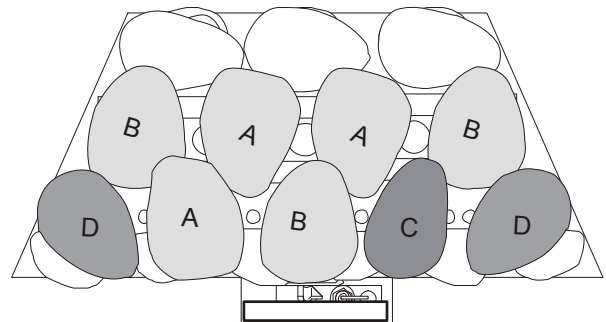

Figure 13
3. Place pebbles **A, B, C & D** in position as shown in **Figure 13**.